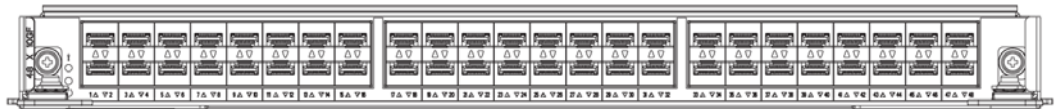

FIGURE 5 48x10 GbE line card (48x1 GbE line card is similar)
- 48x1 GbE and 48x10 GbE line card modules — Ports are numbered from 1 through 48, from left to right, with the odd-numbered ports on the upper row and the even-numbered ports on the lower row when installed in the switch. Refer to Figure 5.